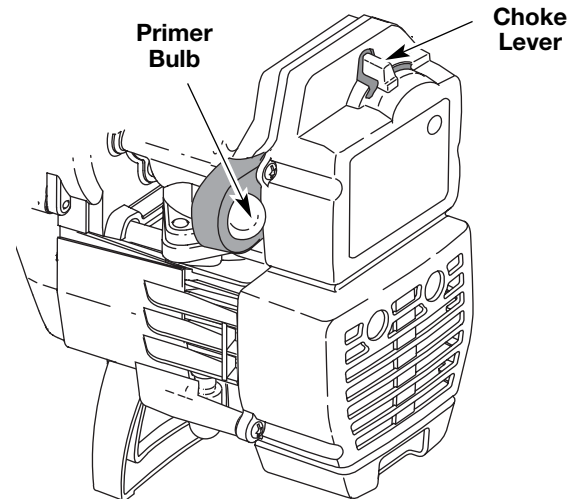

Fig. 8
3. Fully press and release primer bulb slowly 10 times. Fuel should be felt and visible in the bulb (Fig. 8). If fuel hasn't entered the bulb, press three more times, or until it does.
4. Place the choke lever in **Position 1** (Fig. 8).
6. Place the choke lever in **Position 2** (Fig. 8).